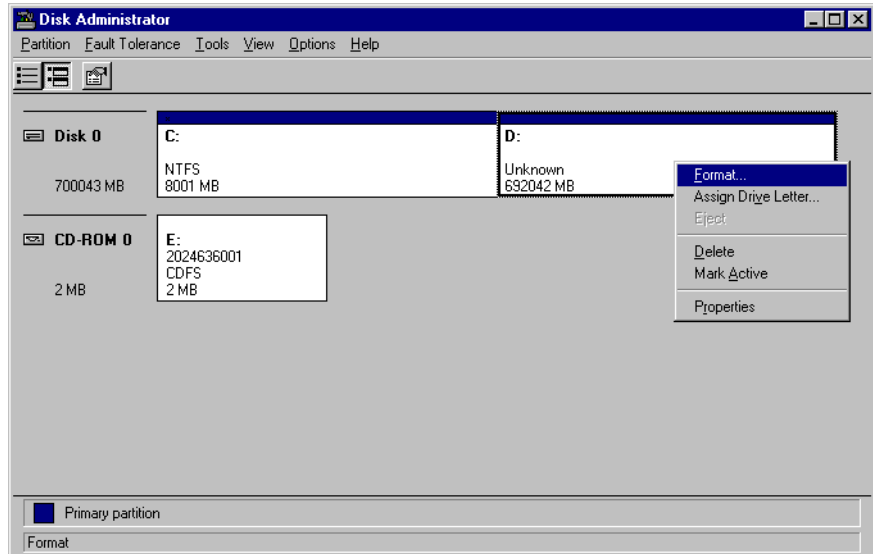

Figure 006
22. Right-click on the *Unknown space* and select *Format* (see Figure 006).